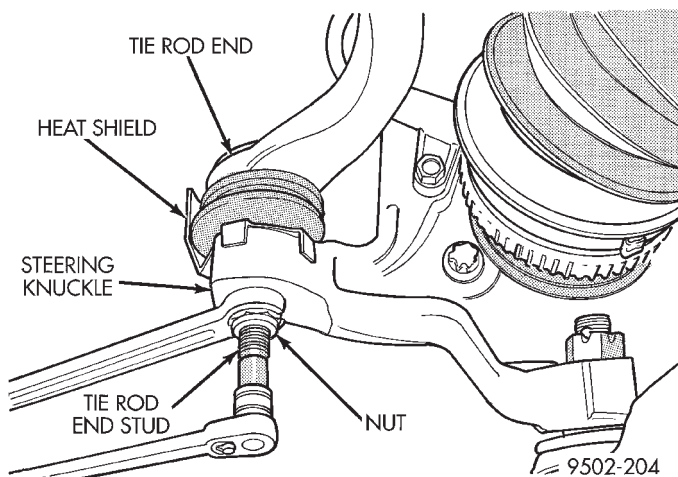
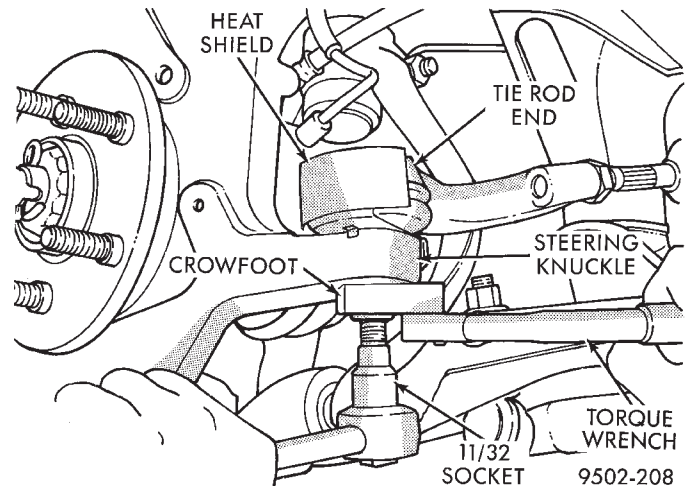

Fig. 64 Tie Rod End Attaching Nut Removal/Installation
Fig. 73 Torquing Tie Rod End Attaching Nut
(9) Remove nut attaching the outer tie rod end to the steering knuckle (Fig. 64). **Nut is to be removed from tie rod end using the following procedure, hold tie rod end stud with a 11/32 socket while loosening and removing nut with wrench (Fig. 64).**
CAUTION: When installing tie rod on steering knuckle the heat shield (Fig. 73) must be installed. If heat shield is not installed, tie rod seal boot can fail due to excessive heat from brake rotor.
(8) Install tie rod end into the steering knuckle. Start tie rod end to steering knuckle attaching nut onto stud of tie rod end. While holding the stud of the tie rod end stationary, tighten tie rod end to steering knuckle attaching nut (Fig. 64). Then using a crowfoot and 11/32 socket tighten the attaching nut to a torque of 61 N·m (45 ft. lbs.) (Fig. 73).
(9) Install rotor on hub and bearing.
(10) Install disc brake caliper assembly on steering knuckle. Caliper is installed by first sliding top of